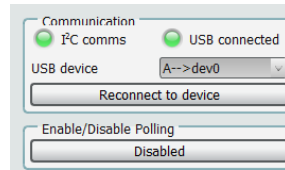

Figure 12: Active Communication Indicator
**Smartcanvas section 1:** Right after the GUI is initialized the "I2C comms" and "USB Connected" indicators should be shown in green, see Figure 12. If either one of these indicators is not green communication has not been established between the DA9155M and the GUI. It is possible to verify this by disabling the VBAT and the input voltage of the performance board, and then the green light should be disabled. Once power is re-enabled, press the "Reconnect to device" button to ensure the communication link is active.
5. Using the GUI: At this point the hardware setup is completed and the DA9155M GUI can be initialized. Once the GUI is done loading check the Active Communication Indicator, see Figure 12.